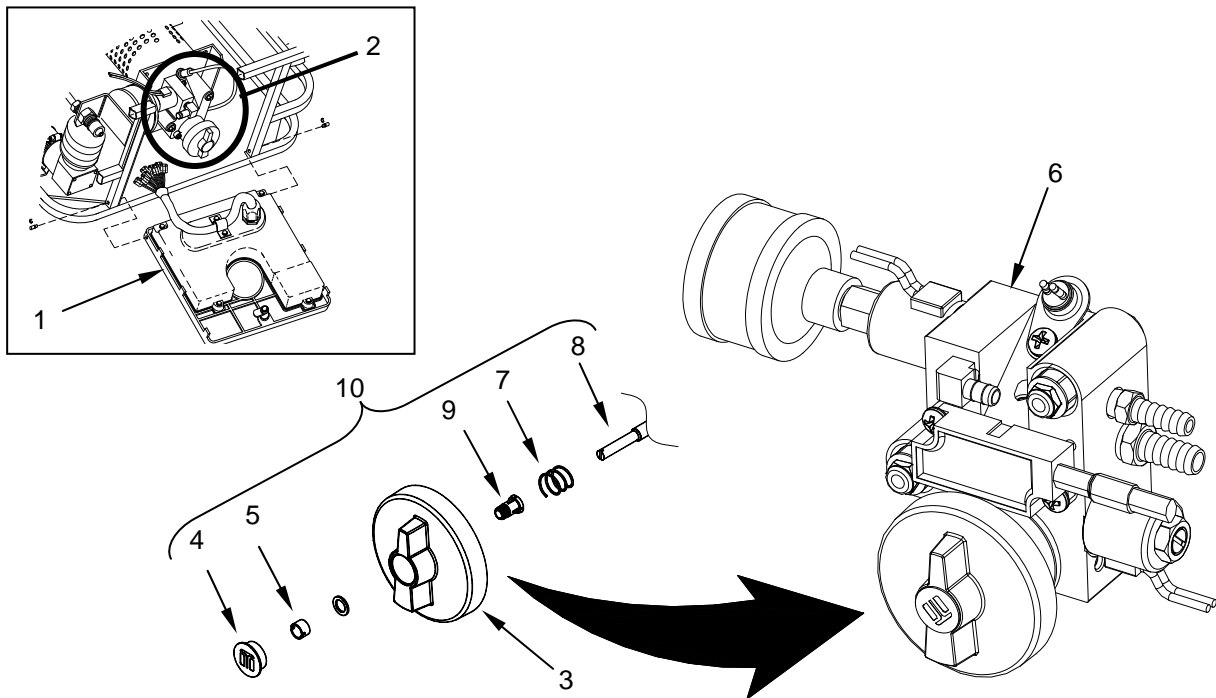

Figure 9. Replace the Control Knob Assembly.
2. Open control panel (Figure 9, Item 1) to gain access to the fuel delivery block assembly (Figure 9, Item 2).
3. To replace the control knob assembly (Figure 9, Item 10), remove the cap (Figure 9, Item 4), and loosen the retaining nut (Figure 9, Item 5) ONLY enough to release the knob from the fuel delivery block (Figure 9, Item 6). Do not remove the retaining nut or disassemble the other knob components.
4. Remove the control knob (Figure 9, Item 3), taking care not to drop the spring (Figure 9, Item 7) located behind the knob.
5. Loosen the retaining nut (Figure 9, Item 5) on the new knob until it is just held in place. Make sure that the spring (Figure 9, Item 7) is in place.
6. Using a screwdriver, or nut driver, placed in the slot of the retaining nut to hold it steady, position the new control knob assembly (Figure 9, Item 3) at a 12 o'clock position and press onto the needle valve shaft (Figure 9, Item 8).
7. Press the control knob until the collet (Figure 9, Item 9) on the back of the control knob is firmly engaged on the needle valve shaft (Figure 9, Item 8).
8. Secure the control knob assembly (Figure 9, Item 3) by tightening the retaining nut (Figure 9, Item 5).
9. Replace the cap (Figure 9, Item 4).
10. Close the control panel (Figure 9, Item 1).